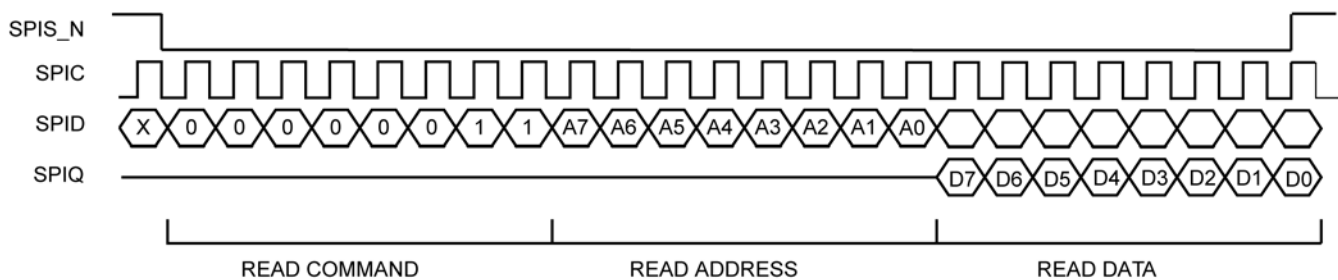
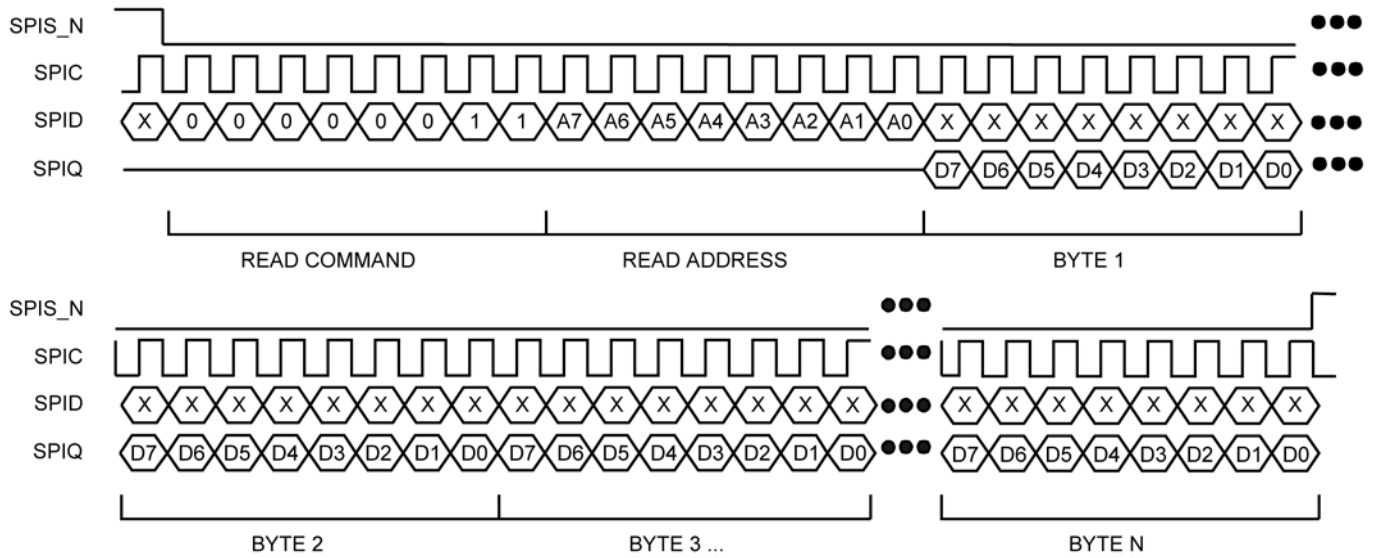

Figure 10. SPI Read Data Cycle
Figure 12. SPI Multiple Read
If a 2-wire EEPROM exists, the KSZ8864RMN can perform more advanced features like broadcast storm protection and rate control. The EEPROM should have the entire valid configuration data from Register 0 to Register 255 defined in the “Memory Map,” except the status registers and indirect registers. After reset, the KSZ8864RMN will start to read all control registers sequentially from the EEPROM. The configuration access time (t_{prgm}) is less than 30ms, as shown in Figure 12.
5. Registers can be read and configuration can be verified with a typical SPI read data cycle as shown in Figure 10 or a multiple read as shown in Figure 12. Note that read data is registered out of SPIQ on the falling edge of SPIC.